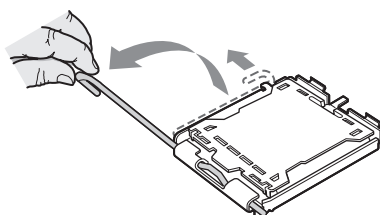

Figure 24. Opening Processor Socket Lever
8. Push down on the lever attached to the processor socket. While holding the lever down, pull it towards the center of the board to disengage the lever from the hook. Fully open the lever. See Figure 24.